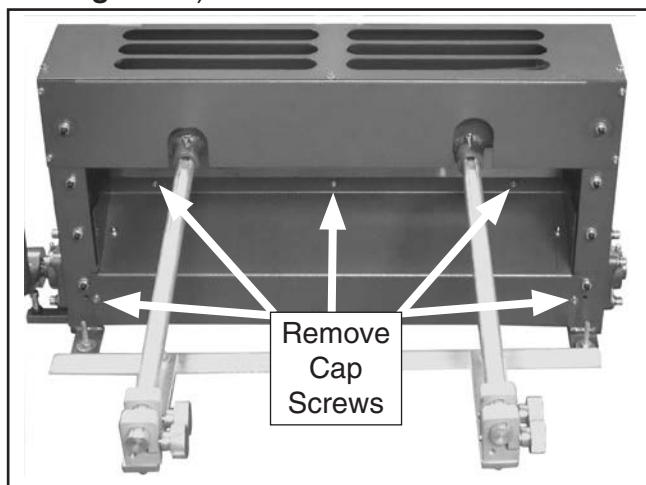

Figure 17. Remove rear lower cover cap screws to access lower blade (**7013** shown).
2. Remove (2) outer cap screws from lower cover, and cap screws (3 on **7013**; 5 on **7014**) from upper cover (see **Figure 17**).